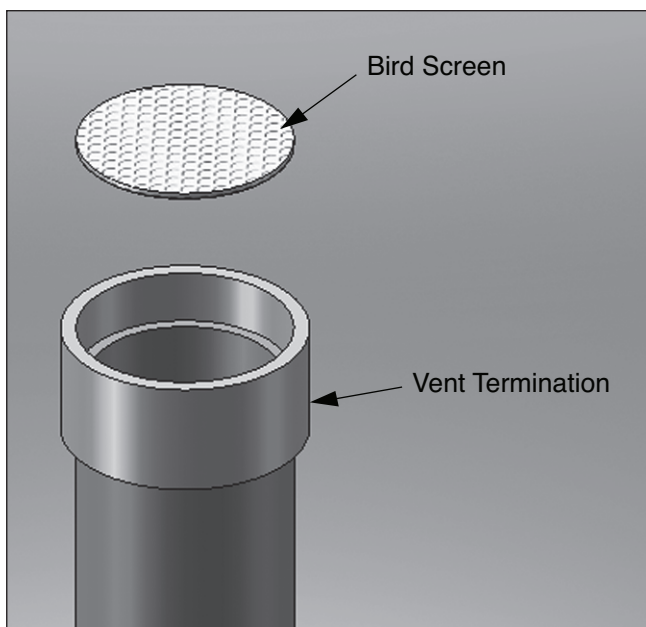
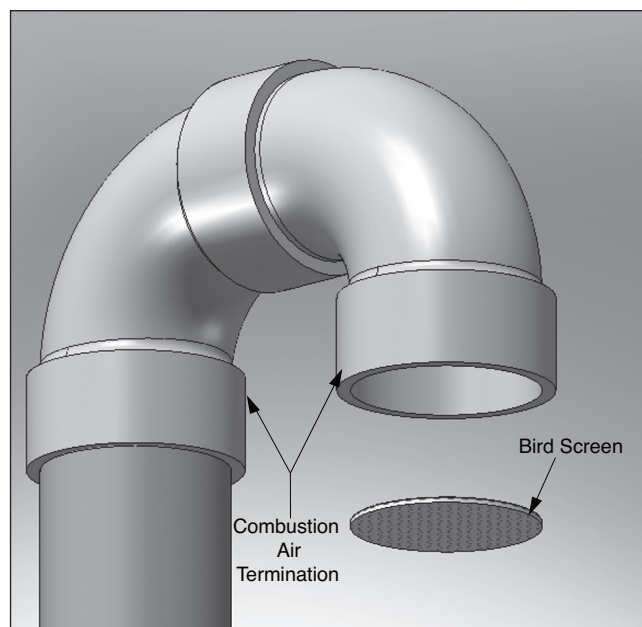

Fig. 3 - Vertical Vent Bird Screen Installation
Fig. 4 - Vertical Combustion Air Bird Screen Installation
1. The vent and combustion air terminations must include a factory supplied "bird screen" installed as shown in *Fig. 3* and *Fig. 4 on page 16*